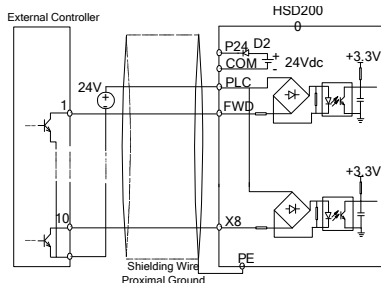

Figure 4-18: Internal +24V Power Supply Servo Drive Drain Connection
2) The servo drive internal +24V power supply shall be used. The external controller connection mode is NPN common emitter output. It is shown in figure 4-18: (wiring between PLC and P24 terminal shall be removed).